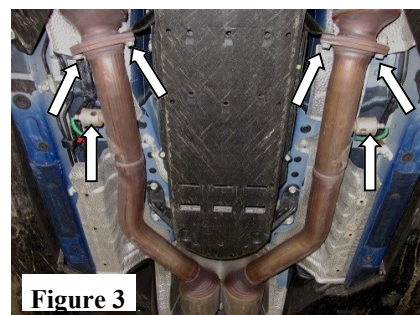

Figure 3
5. Unplug and remove the left and right oxygen sensors from the factory exhaust system using a 7/8" socket. Remove the flange hardware and remove the rearward remaining exhaust system from the vehicle. (See Fig. 3)